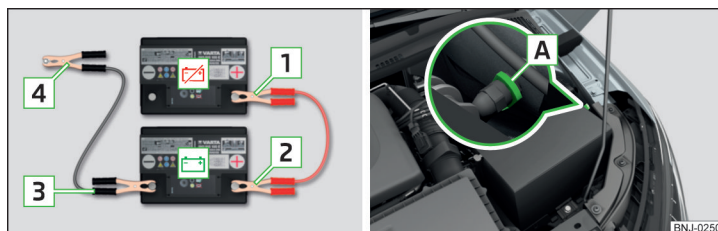

Fig. 267 Jump-starting: 🛑 - discharged battery, 🔋 - power-supplying battery/ground point of the engine for the START-STOP system
- For vehicles **with** the START-STOP system, attach clamp **4** to the ground point of the engine **A** » Fig. 267.